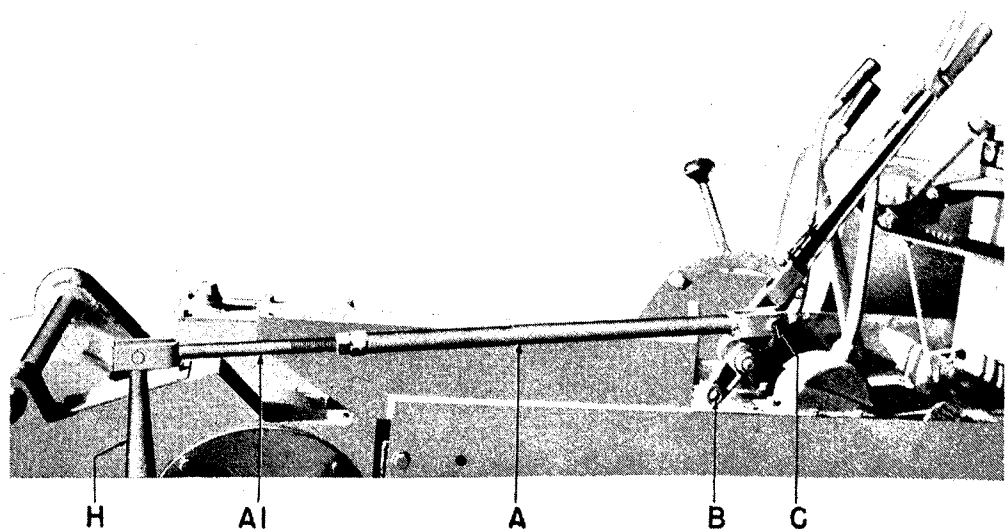

Figure 3 (Overwinding)
2. The brake link "A" should be connected to the UPPER HOLE in the handlever as at "C," Fig. 3, page 9, when the DRUM IS OVERWINDING.